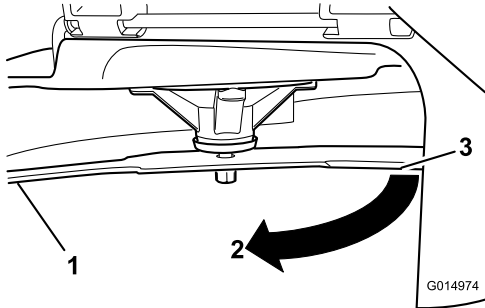

Figure 68
3. Second measured distance between blade and surface (B)
4. Rotate the same blade 180 degrees so that the opposing cutting edge is now in the same position (Figure 68).